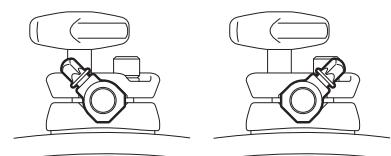

Fig. 4-B / 図4-B
- A Stop Lock is provided to keep the L-Rod secure while playing. To set the Stop Lock, loosen the Key Bolt and slide the Stop Lock against the Rod Clamp (Fig.4-A). The Stop Lock and the Rod Clamp are designed to lock together when the Stop Lock is positioned as shown (Fig. 4-B). Choose the position that allows convenient access to the Key Bolt.